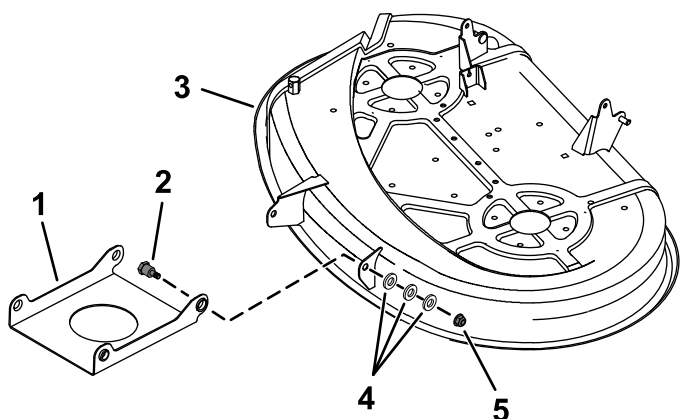

Figure 2
2. Secure the bracket to the deck using the new shoulder bolt (1/2 x 1-1/8 inches), locknut (1/2 inch), and 3 flat washers (1/2 inch) as shown in Figure 2.